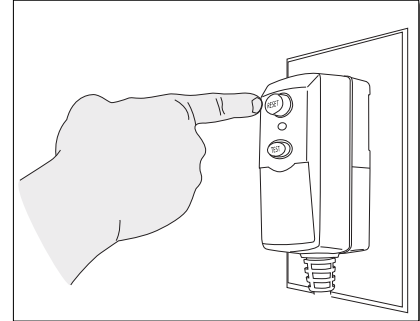

Fig. 14
- Unwind the power cord completely and plug the GFCI into a grounded 120 volt outlet. Press the ‘reset’ button on the GFCI box (**Fig. 14**). The indicator window should show a red color. This must be done each time the unit is plugged in.